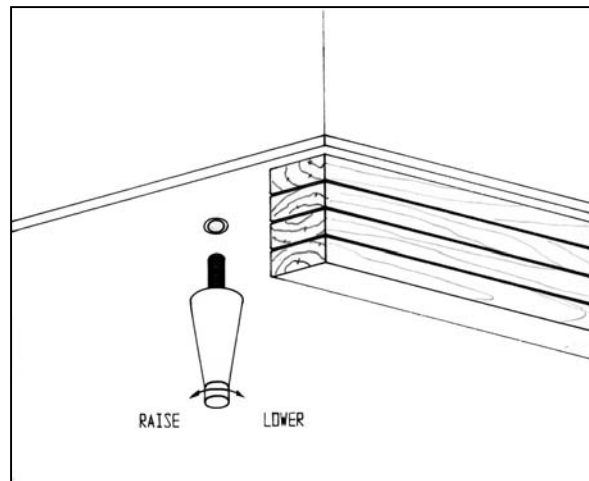

FIGURE 2
Your new reach-in model is supplied with adjustable type legs for leveling purposes. Each single and two section model has four leg mounting holes on its case bottom, and three section models have six leg mounting holes. Legs are packed in the accessory carton from which they must be removed and installed on the cabinet case bottom (see figure 2). In order to install the legs, carefully tip the cabinet rearward adding four (4) 2" wood blocks underneath and simply screw the threaded leg studs into the case bottom front leg holes. Repeat this procedure by tilting the cabinet in the opposite direction and install the remaining legs. Make sure the legs are tightened extremely well or the entire model will sway or rock with each opening or closing of the doors, possibly causing damage to the case bottom. This procedure should be performed close to the final installation site and allow access to the rear of the cabinet for condensate evaporator installation (see "condensate evaporator installation" under installation and location section).